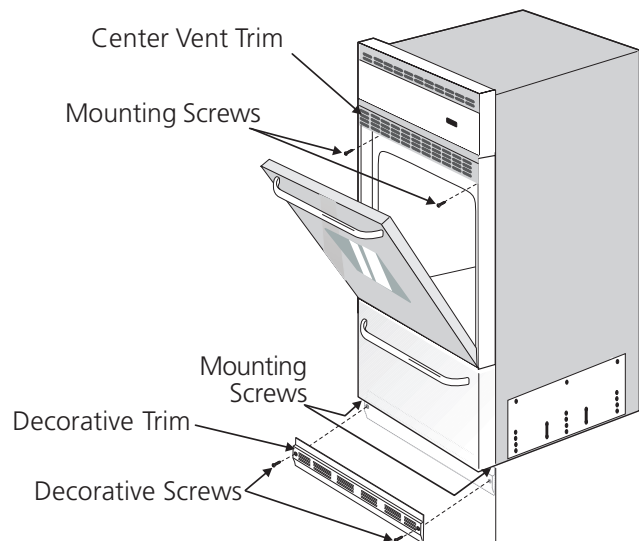

Figure 6
### To fasten the appliance to the cabinet (figure 6):
2. **Optional:** Install the decorative trim under the appliance (as shown on figure 6) using the 2 decorative screws supplied with the appliance.